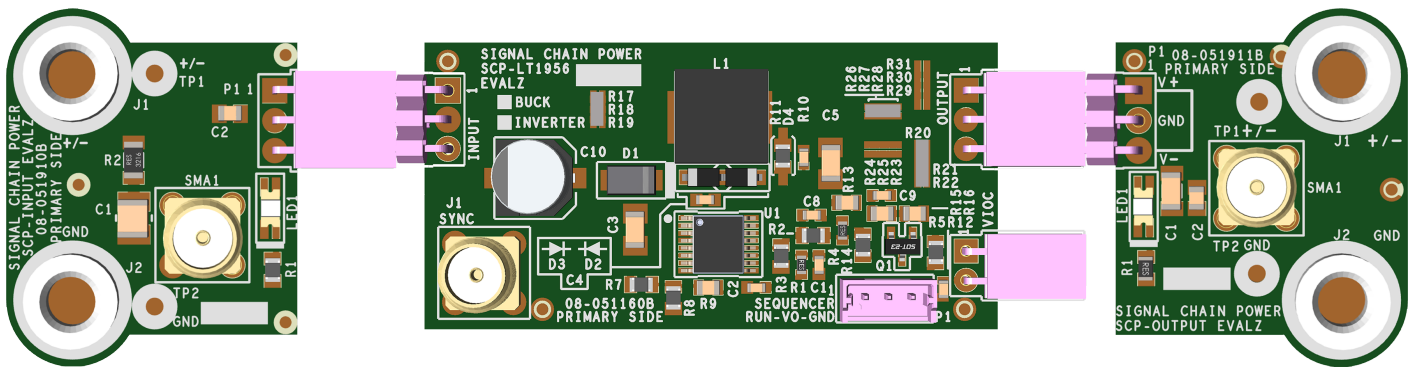

Figure 2. Proper Measurement Equipment Setup (Use SMA connectors for Measuring Input or Output Ripple)
2. Connect the SCP-INPUT-EVALZ and SCP-OUTPUT-EVALZ boards to the SCP-LT1956-IEVALZ (refer to Figure 2) and connect the input board to a voltage source,  $V_{SOURCE}$ . Connect the output board to a voltmeter or dynamic load. Slowly raise the input voltage until the SCP-LT1956-IEVALZ powers up into regulation and sweep  $V_{SOURCE}$  through the desired range of operation.